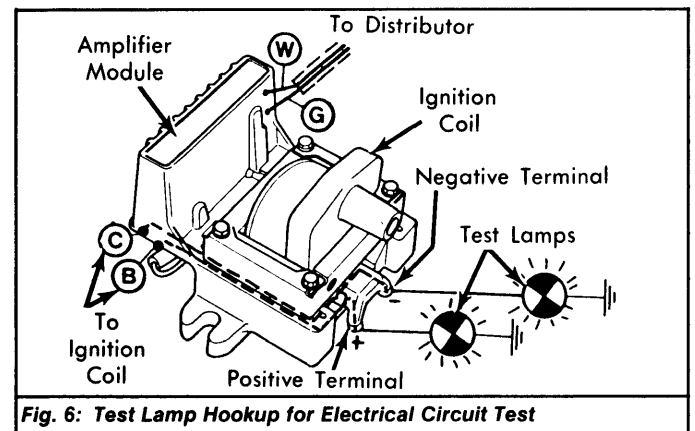

Fig. 6: Test Lamp Hookup for Electrical Circuit Test
- 1) Connect a 12-volt test lamp between the coil positive terminal and ground. Turn ignition on. Test lamp should light. If not, check feed wire to coil. See Fig. 6.